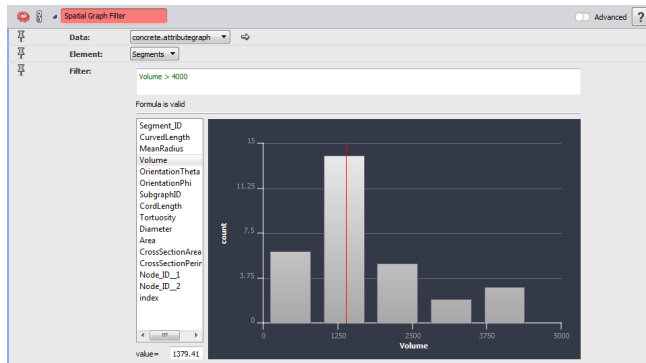

Figure 10.30: Parameters Settings of the *Spatial Graph Filter* Module
2. Attach a *Spatial Graph Filter* module to the spatial graph result of the *Fiber Shape Statistics* module and set the parameters as shown in Figure 10.30, and click **Apply**.